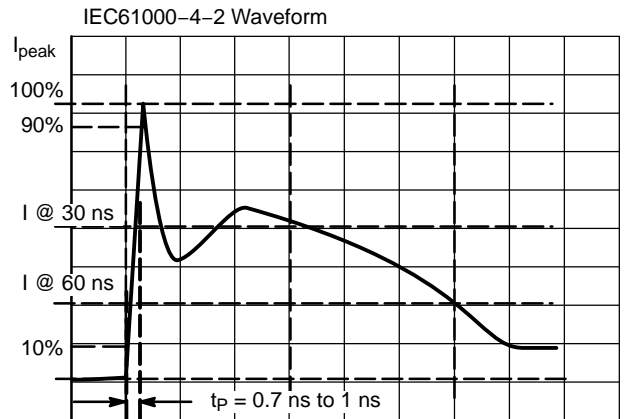

Figure 3. IEC61000-4-2 Spec
3. For test procedure see Figures 3 and 4.